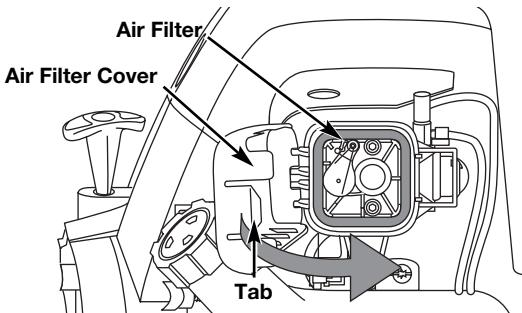

Fig. 28
7. Reinstall the air filter cover. Position the hooks on the left side of the air filter cover into the slots at the left side of the back plate (Fig. 28).
8. Swing the cover to the right until the tab on the air filter cover snaps into place in the slot on the back plate (Fig. 28).